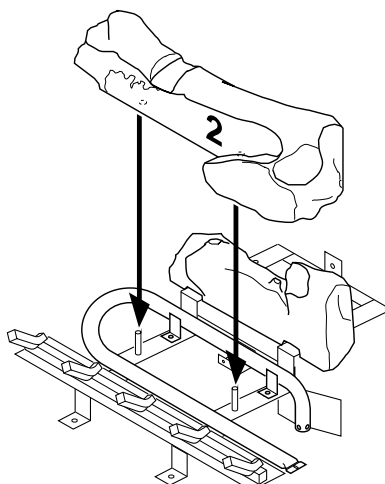

Figure 46 - Installing Log No. 2
2. Rest log #2 (large front log) on the pins on the front part of the grate (see Figure 46).